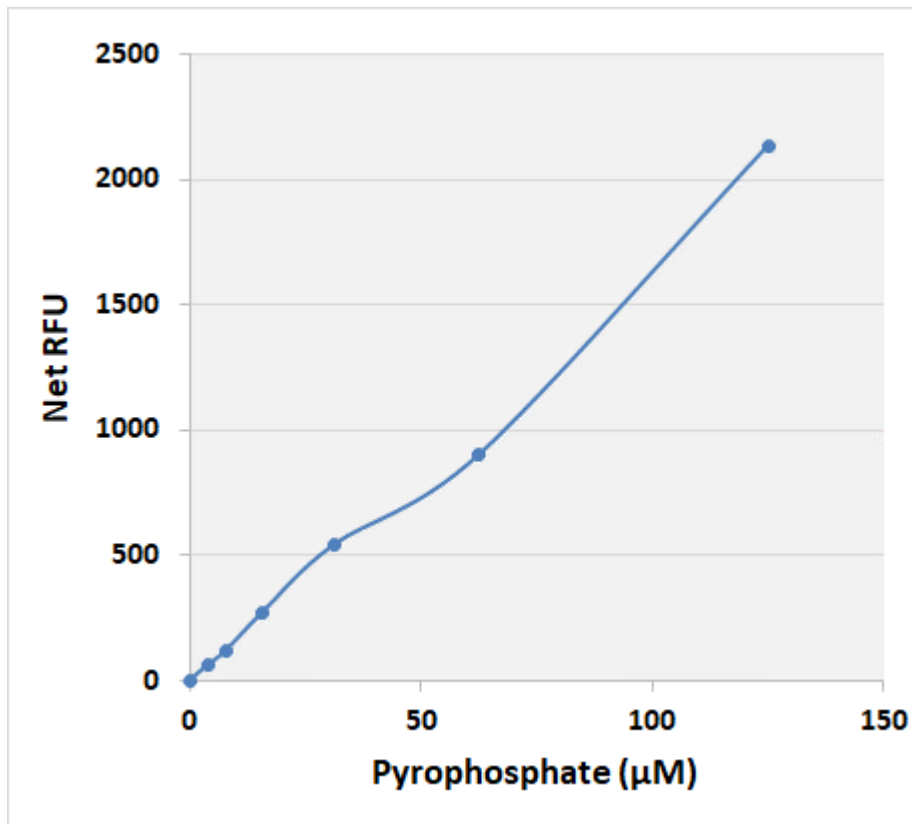

Figure 2: Pyrophosphate Standard Curve.
3. Graph the standard curve (see Figure 2).